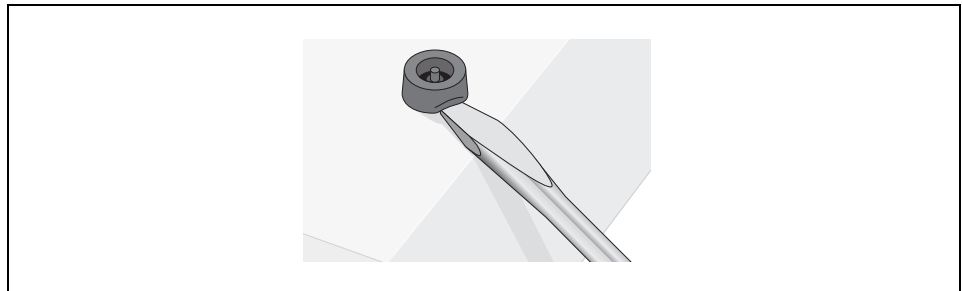

Figure 42. Removing the Chassis Feet
2. Using a flat-head screwdriver, remove the snap-on plastic feet from the bottom of the chassis, as shown in Figure 42.